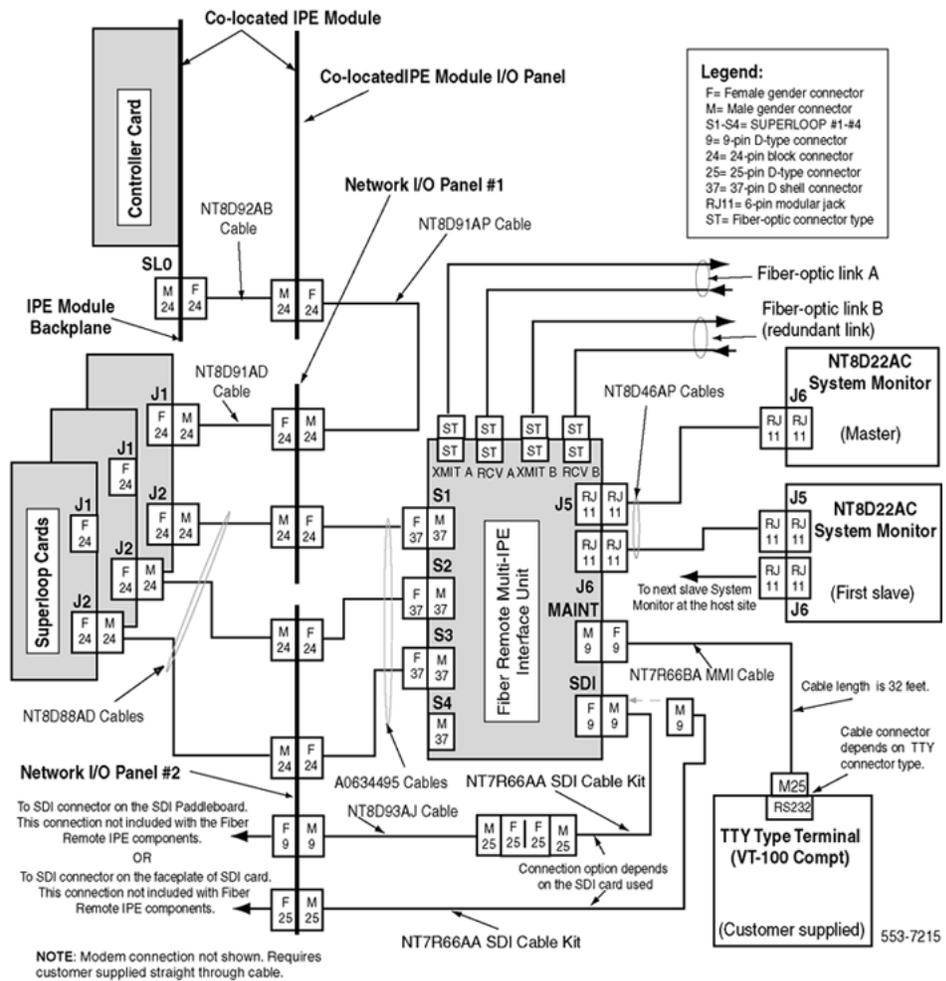

Figure 15: Local site single Fiber Remote Multi-IPE Interface unit cable connection diagram
- Figure 15: Local site single Fiber Remote Multi-IPE Interface unit cable connection diagram on page 130 shows a network of Superloop Network cards, including:
- Shows three SUPERLOOPS, which are extended from the local site. Refer to Figure 15: Local site single Fiber Remote Multi-IPE Interface unit cable connection diagram on page 130, where SUPERLOOP #1 supports one entire IPE Module, SUPERLOOP # 2 and SUPERLOOP #3 support the second IPE Module. SUPERLOOP #4 is not equipped in this example.